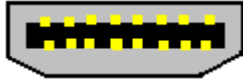

Figure 4-35: HDMI Connector
- CN Location:** See **Figure 4-35**